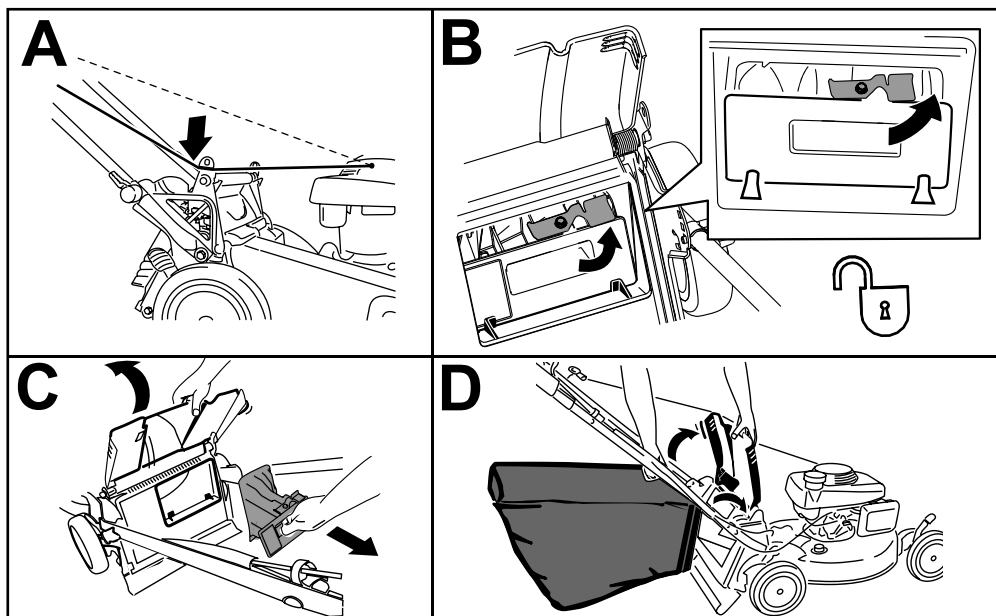

Figure 23
**Note:** To unlock the rear plug, rotate the lever on the plug to the right (Figure 23).
1. Route the starter rope around the lower-rope guide (A of Figure 23).
2. Raise and hold up the rear deflector and pull out the rear plug (B of Figure 23).
3. Pull out the rear plug (C of Figure 23).
4. Hang the upper front edge of the bag from the grass-bag pins on the notches of the handle brackets (D of Figure 23).